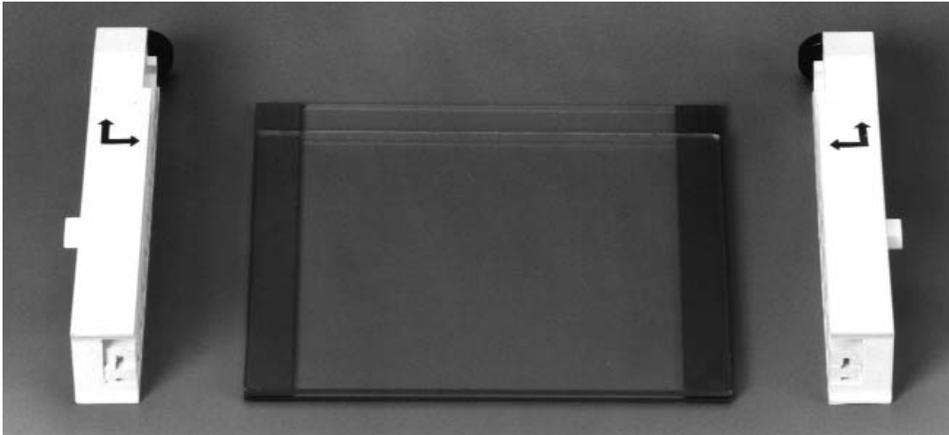

Fig. 6.3. Positioning glass plates, spacers, and clamps.
3. Loosen the single screw of each sandwich clamp by turning it counterclockwise. Place each clamp by the appropriate side of the gel sandwich with the locating arrows facing up and toward the glass plates (Figure 6.3).